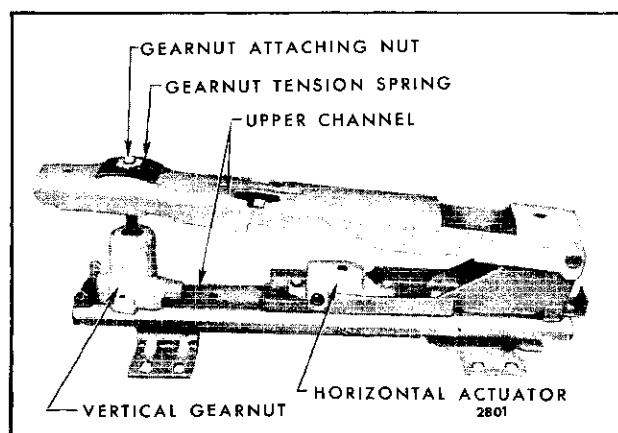

Fig. 15-11—Four-Way Seat Adjuster - Buick "B, C & E" Styles
2. Remove vertical garnut attaching nut and garnut tension spring (Fig. 15-11).
3. Lay adjuster on its side and remove screws securing vertical garnut to adjuster lower track; then, remove garnut from adjuster (Fig. 15-11).
4. To install, reverse removal procedure. Make sure horizontal actuator is properly adjusted (Fig. 15-11 and 15-12), so that drive gear is fully engaged with teeth on lower channel.